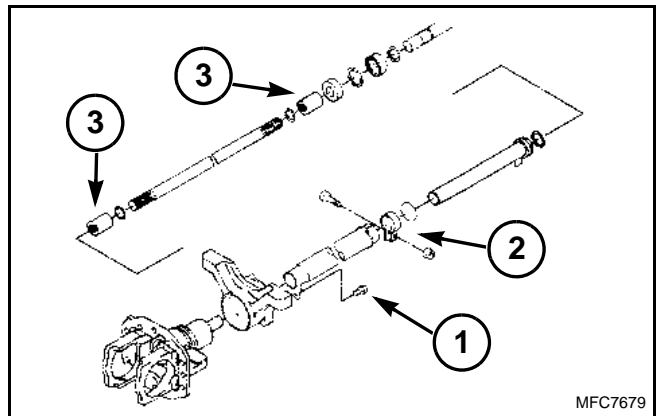

FIG. 4
FIGS. 4–5: 4 wheel drive only - Remove bolt,(1) from the 4wd shaft shield. Loosen clamp,(2) holding telescoping driveshaft shield tubes. Slide tubes together to expose couplers and snap rings. Move snap rings and couplers (3) towards the center of the shaft. Remove the 4wd shaft.